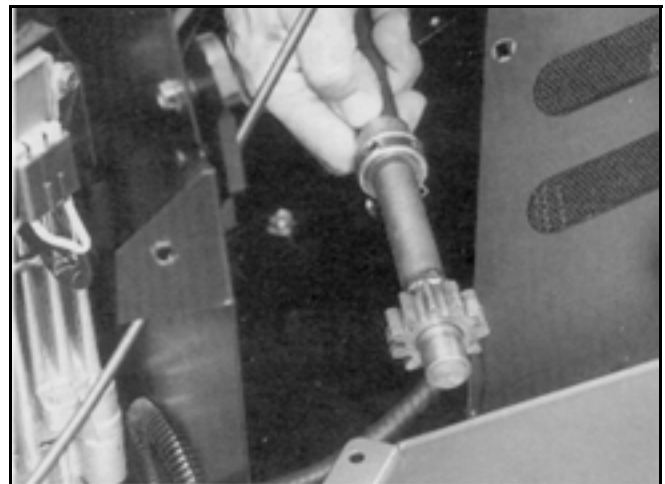

Figure 31
9. Lift the steering shaft upwards, out of the lower bushing and through the opening in the mounting bracket. Tilt the shaft towards the front of the tractor and remove it (Figure 31).